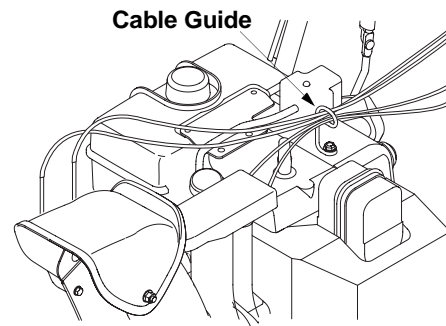

Figure 7
1. Slip the cables, running from the chute to the handle panel into the cable guide located on top of the engine. See Figure 7 .